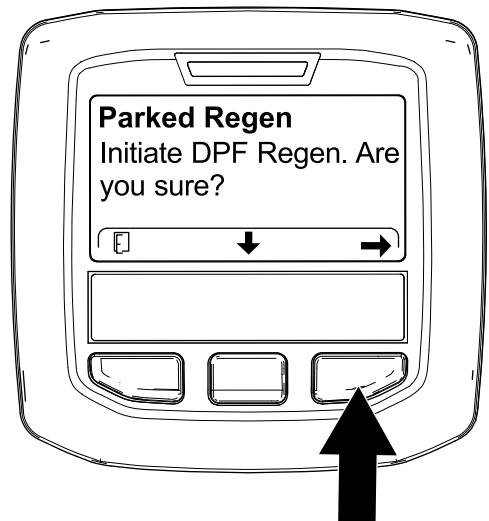

Figure 64
- At the INITIATE DPF REGEN screen, press the right button to continue (Figure 64).